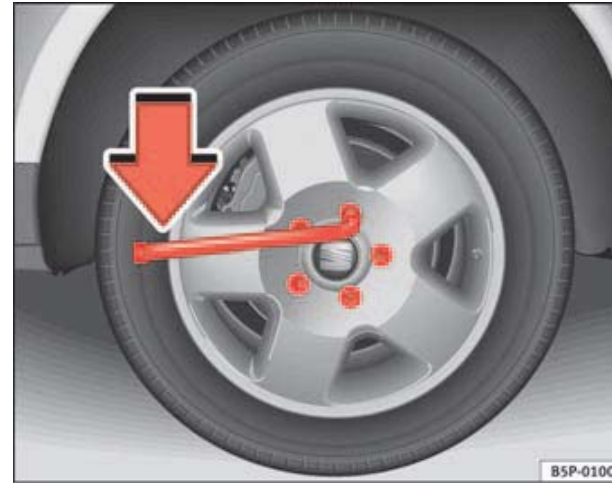

Fig. 155 Changing the wheel: Loosening the wheel bolts
- Grasp the box spanner by the end and turn it about one full turn to the **left** ⇒ fig. 155.